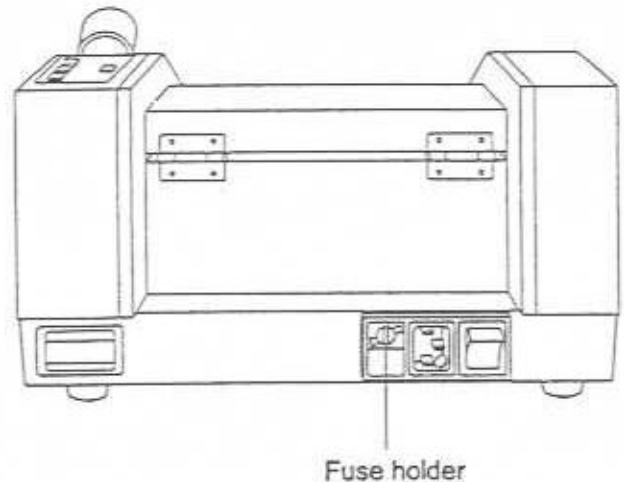
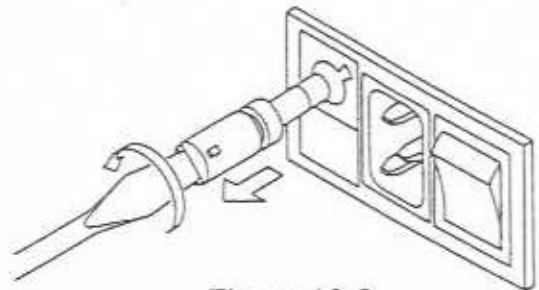

Figure 10-1
Figure 10-2
- ① Unscrew (turn counterclockwise) the fuse holder on the rear panel (see Figure 10-1) and remove the fuse from it (see Figure 10-2).
- ② Check to see if the fuse has blown out or not by eyes. If it is difficult to judge it by eye-check, check the connection between the both ends of the fuse by measuring the resistance with a tester. If the measured resistance is infinite, the fuse has blown out. On the other hand, if the resistance is $0\ \Omega$, the fuse is normal.
- ③ When the fuse has blown out, set a new fuse of the specified rating in the fuse holder.
- ④ Screw the fuse holder with a new fuse into the socket on the rear panel as it was.